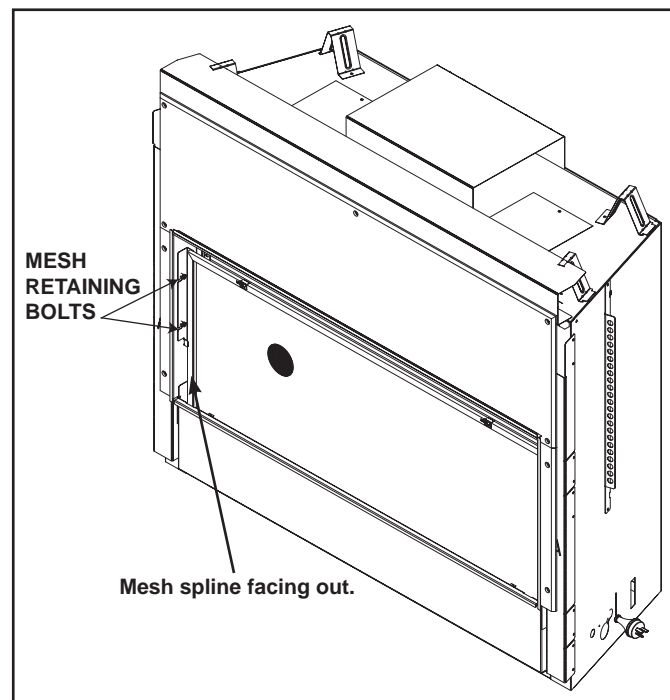

Figure 14.2 Mesh Installation
3. Thread retaining bolts into mating threads to retain mesh as shown. See Figure 14.2.